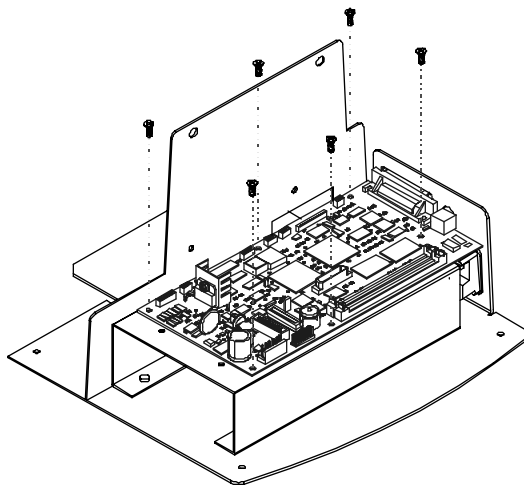

Figure 5-6. MPCB Removal.
14. Using care, remove the MPCB by unscrewing the remaining screws securing the MPCB to the bracket using a #2 Phillips screwdriver. See Figure 5-6.